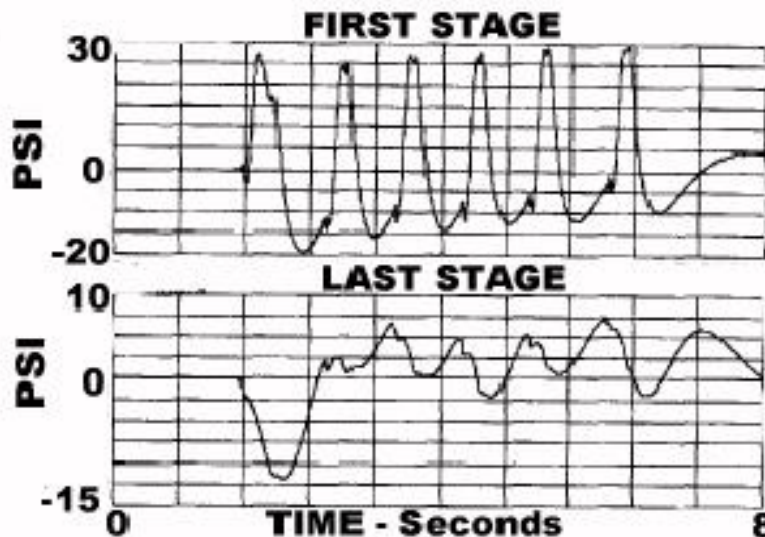

Figure 1.1, Simultaneous Pressure Pulsations During Part-Load Testing at Front and Rear Stages for a 14-stage Air Axial Compressor.
- d. Compressor suction pressure immediately upstream of the compressor inlet flange. Monitor both the local pressure gage (for low pressure, a water manometer works well) and the pressure transmitter. Watch for a bouncing in the pressure level. Note that the pressure transmitter may not show this unless it is rated as a dynamic device, with a rise time below 0.1 sec. When the dynamic amplitude exceeds 20% of the gage static pressure or the compressor pressure rise, consider the unit to be in surge (Figure 1.1)
- e. Compressor discharge pressure near compressor discharge flange(see Figures 1.1, 1.2, & 1.3). As the blow off valve is slowly closed, the pressure will rise. Monitor both the pressure gage and the pressure transmitter. Watch for the pressure to bounce (see "d" above). Also watch for any drop in pressure. At the first indication of a drop in pressure (with decreasing flow), consider this to be surge, and record data.